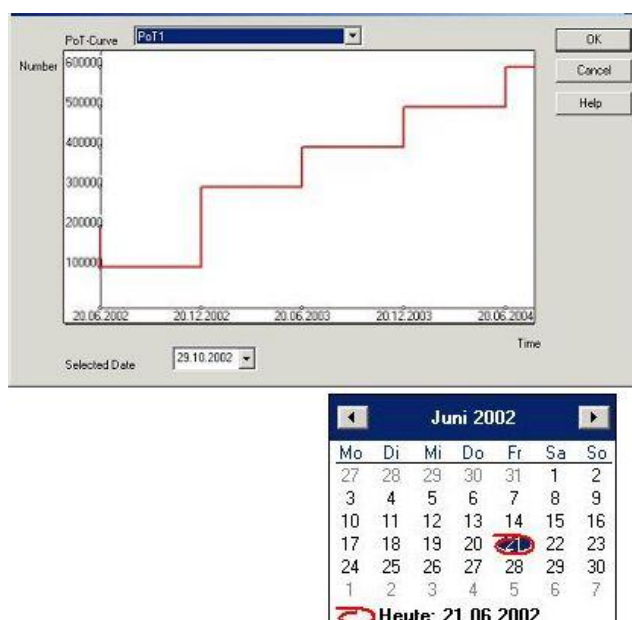

Figure 7: Specifying the PoT Curve and the Start Date
- 1) Specify the start date for the Manufacturing Concept in the **Selected Date** dialog (Please refer to the Figure 7) The PoT curves determine the planned numbers and the scheduled dates. To select a realistic start date, refer to the scheduled dates from the PoT curves.